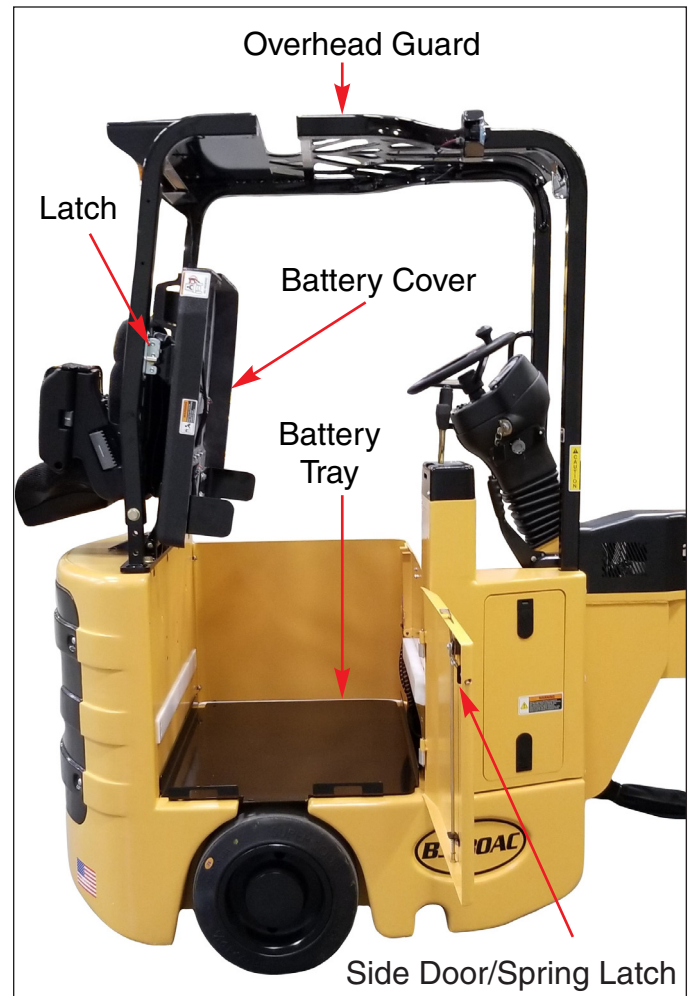

Figure 4-4: Removing the Battery
6. Open the right side door by sliding the locking lever to the right, then swing the door fully opened. **See Figure 4-4**
8. Slide the compartment side door spring latch towards the front of the forklift to release the side door. Open the door. **See Figure 4-4.**